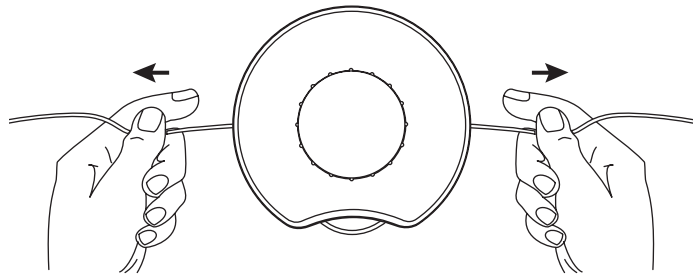

Fig. 15
3. Pull the ends through making sure that the ends are of equal length and the middle of the line is centered between the insertion holes (Fig. 15).